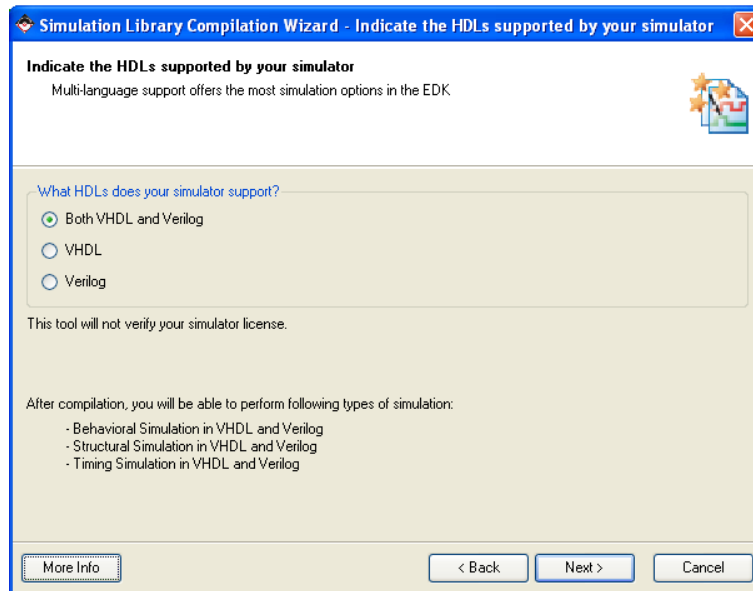

Figure 5: Simulation Library Compilation Wizard - HDL Support
- The third screen of the wizard is used to select the HDL language used by the simulator as shown in Figure 5. ModelSim 6.3c supports both VHDL and Verilog. It is up to you to select which language, however, selecting both language will allow to use any of them if required by it will require more disk space. **Select Both VHDL and Verilog** and then **Click Next**.